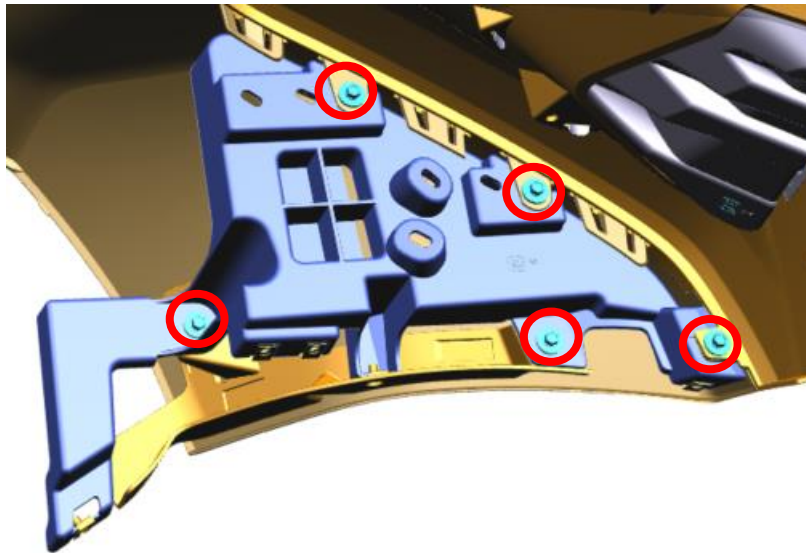

Figure 7 – Passenger Side Plastic Brace
- a. Remove [5] M4 bolts (M7 Socket) and discard Plastic Brace – 1 per side - Fig. 7